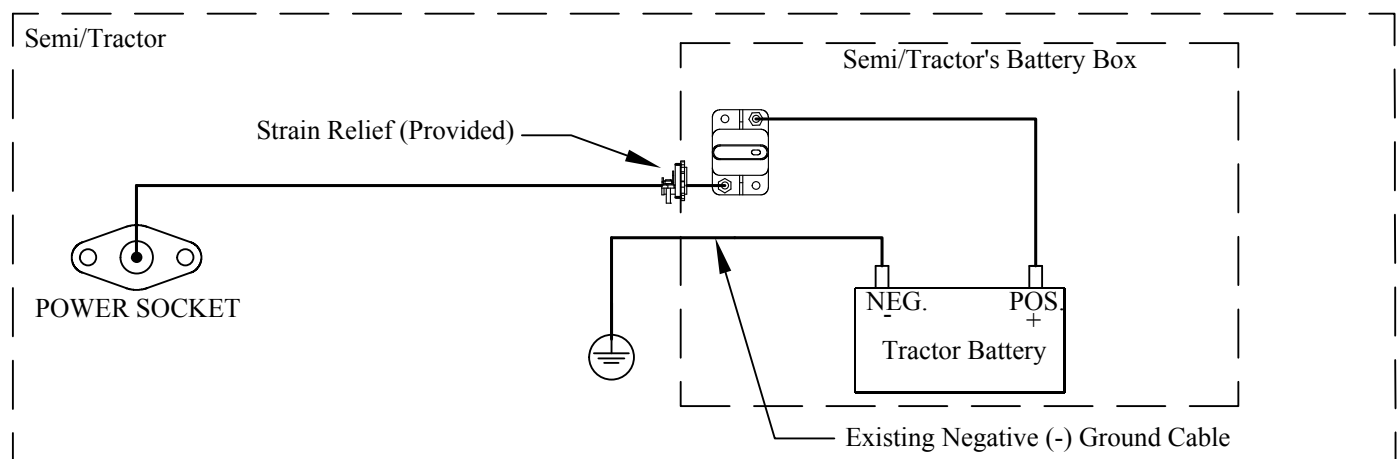

Figure 6: Semi/Tractor 12V Charge Line Wiring Diagram .
16. **Verify** the wiring of the Semi/Tractor Charge Line Kit (Figure 6).